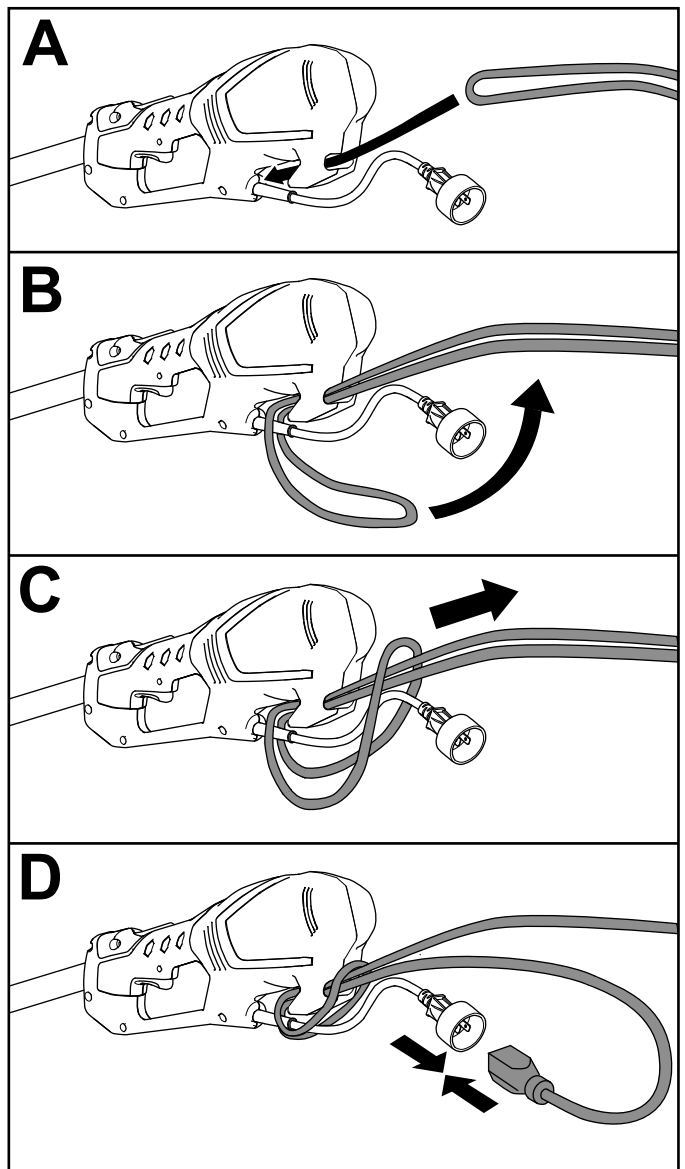

Figure 4
1. Take a loop of the cord and insert it into the opening in the rear of the string trimmer (A of Figure 4).
2. Insert the ends of the cord through the loop (B and C of Figure 4).
3. Connect the cord to the machine plug and ensure that the connection is secure (Figure 4).